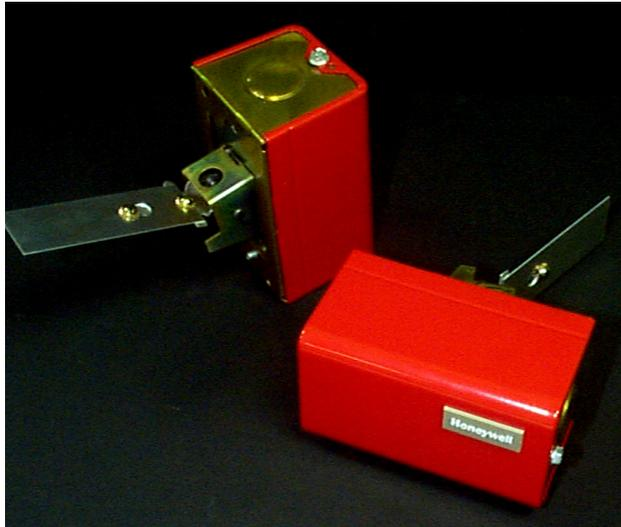

*Figure 41-One 8IO with a Ground on Either Side of the Power Supply and One 8IO with no Ground in the System*
- On a 24 V AC line with the ground in the system on either side of the power line or with no ground in the system at all (*Figure 41*)